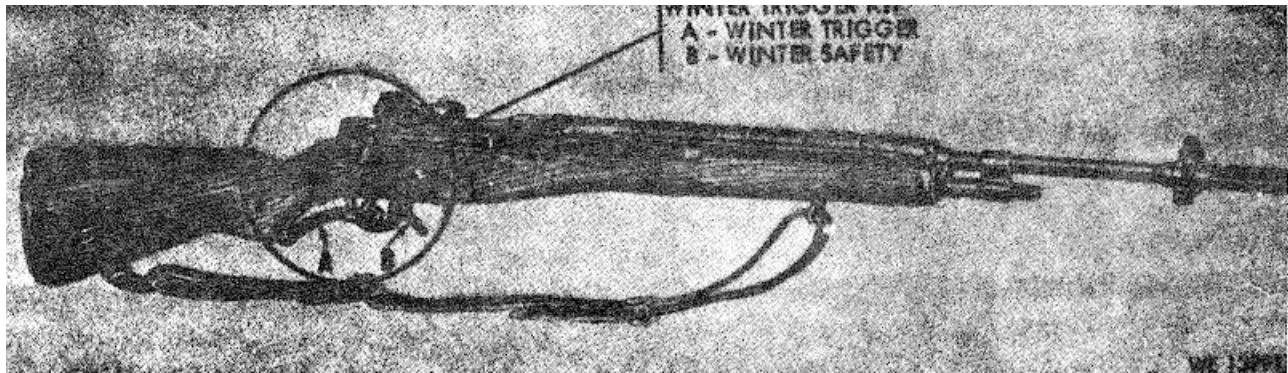

Figure 1-7. 7.62.-MM Rifle M14 with winter rigger kit.
g. The winter trigger kit M5 is used in cold weather or arctic operation of rifles. The winter trigger kit (fig 1-7) is assembled to the stock assembly with screws.